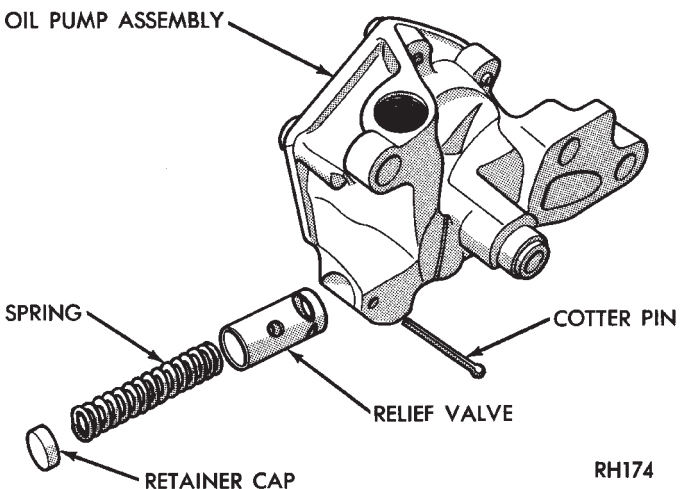

Fig. 56 Oil Pressure Relief Valve
- (1) Remove the relief valve as follows:
- (b) Clamp screw into a vise and while supporting oil pump, remove cap by tapping pump body using a soft hammer. Discard retainer cap and remove spring and relief valve (Fig. 56).